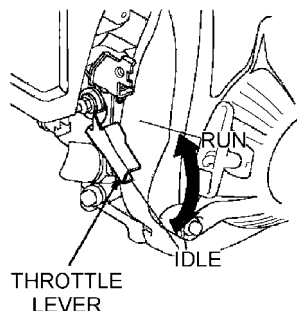

Figure 15. Throttle Lever (Run)
- To begin pumping, place the throttle lever (See Figure 15) in the **RUN** position. If water is not flowing out of the discharge port, turn off the engine and check for and clear any obstructions within the suction hose.